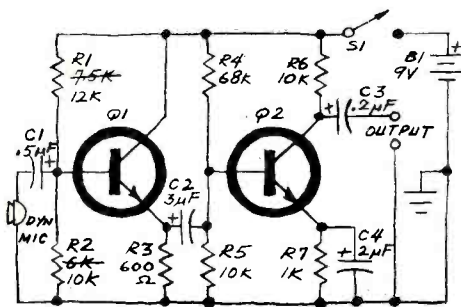

Fig. 8. This is the final circuit layout.
Insert all of the above figures into the circuit as shown in Fig. 8.
• 7. Breadboard the circuit. When substituting resistor values, keep the same ratio between the values and increase or decrease until you come close to something you have. For instance, assume you do not have a 7500- or 6000-ohm resistor for $R1$ or $R2$. You know the values can go up, so find the ratio of $R1/R2$ —which is 1.25. An increase in both values will merely raise the input impedance, which is not objectionable. Thus, as shown in Fig. 8, $R1$ and $R2$ were changed to 12k and 10k, respectively, since they were readily available.